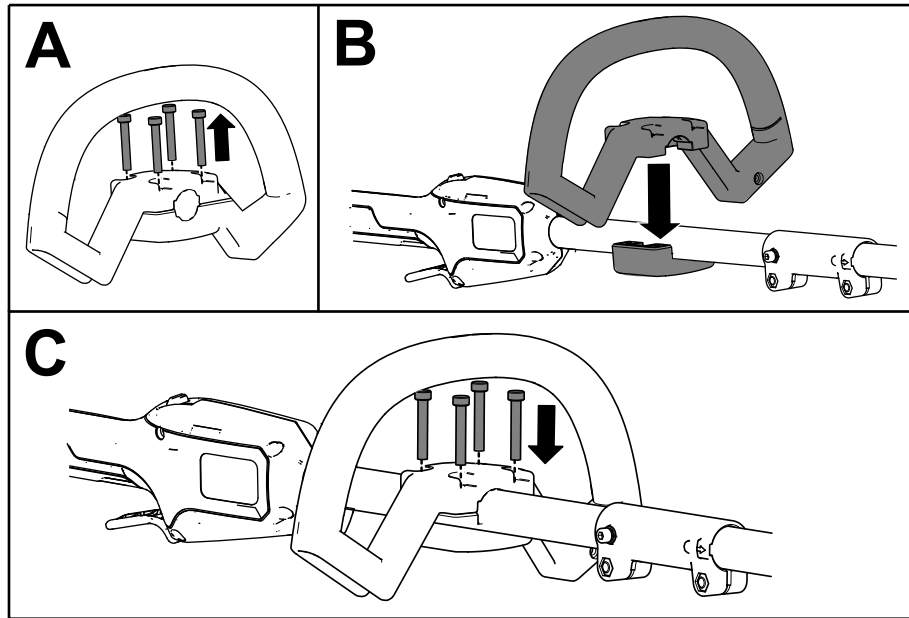

Figure 5
1. Separate the auxiliary handle from the handle plate by removing the 4 socket head screws using the provided Allen wrench (A of Figure 5).
2. Line up the auxiliary handle with auxiliary handle plate on the shaft (B of Figure 5).
3. Secure the auxiliary handle to the handle plate with the 4 socket head screws previously removed (C of Figure 5).